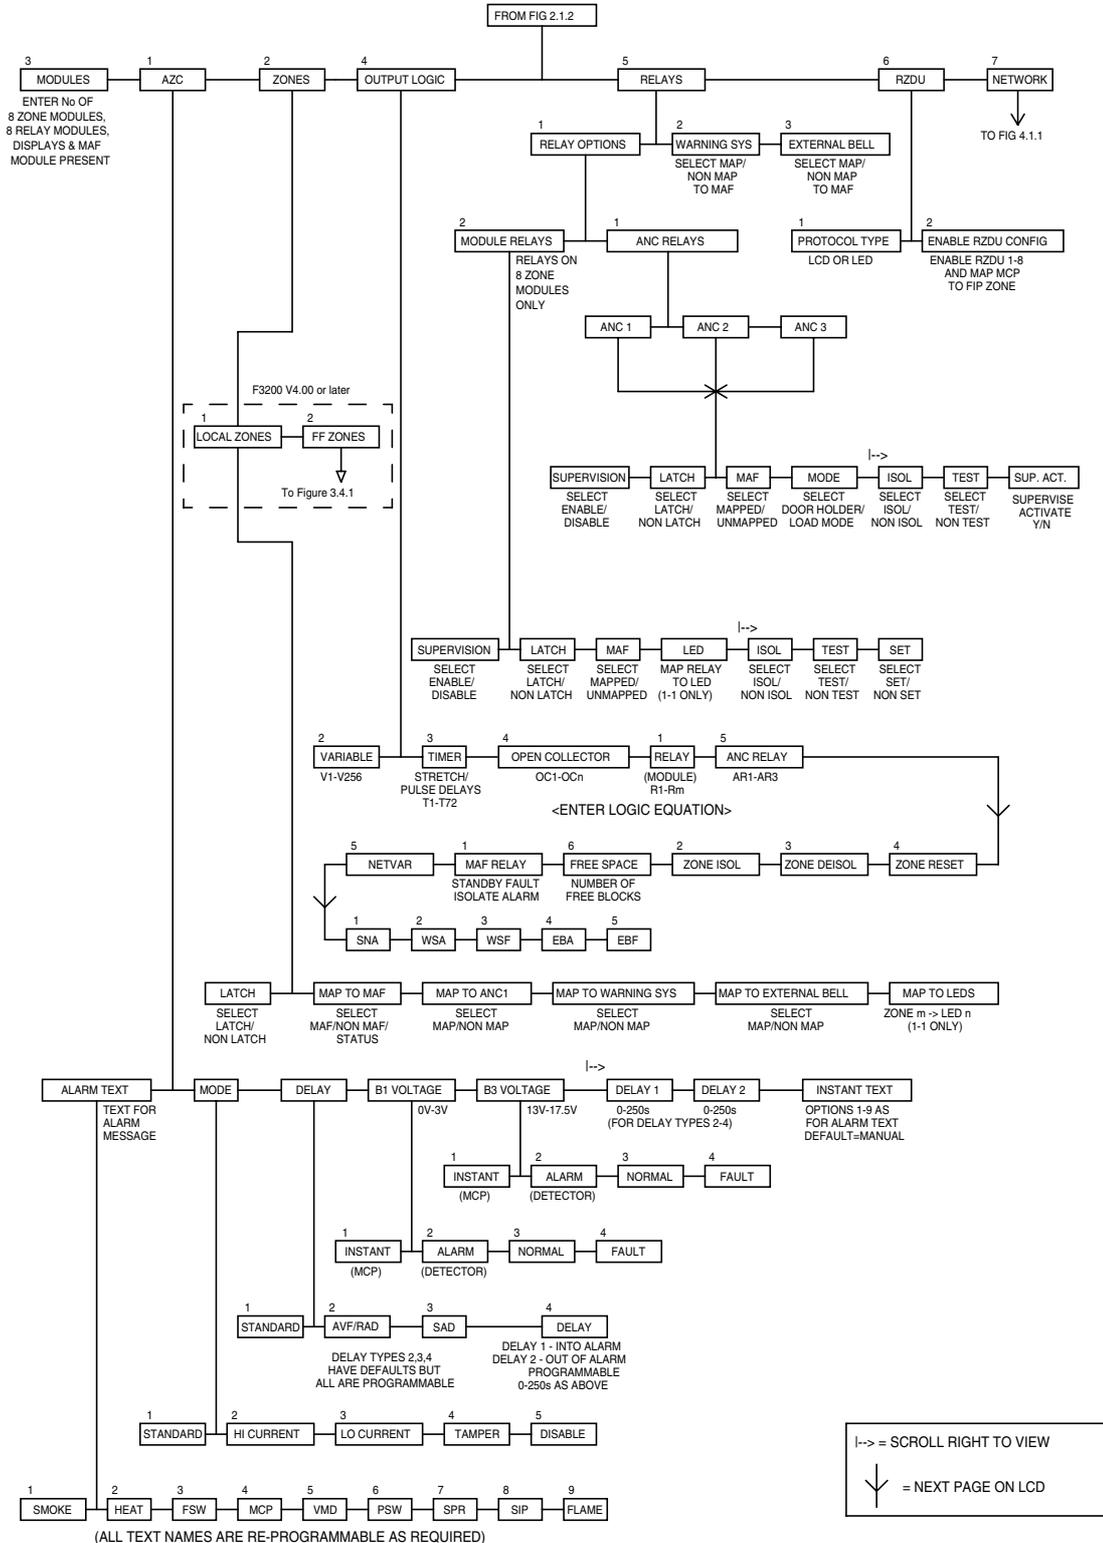

FIG 3.1.1 PROGRAMMING MENU
The network option is described in Chapter 4. For a non-networked F3200 with V3.XX software, the network option and menus do not appear. For a non-networked F3200 with V4.XX software, the network option (7) does appear in the menu but network operation should be disabled (this is the default setting) as described in section 4.3.1. Fig 3.1.1 shows all of the other programmable items accessible from the System Configuration menu.
When initially programming a new FIP, Fig 3.1.1 may be used as a flowchart. Working from top to bottom, left to right, on first Fig 2.1.2 and then Fig 3.1.1, the entire database can be programmed.
The programmable options for each zone as shown in Fig 3.1.1 are (default in parentheses):